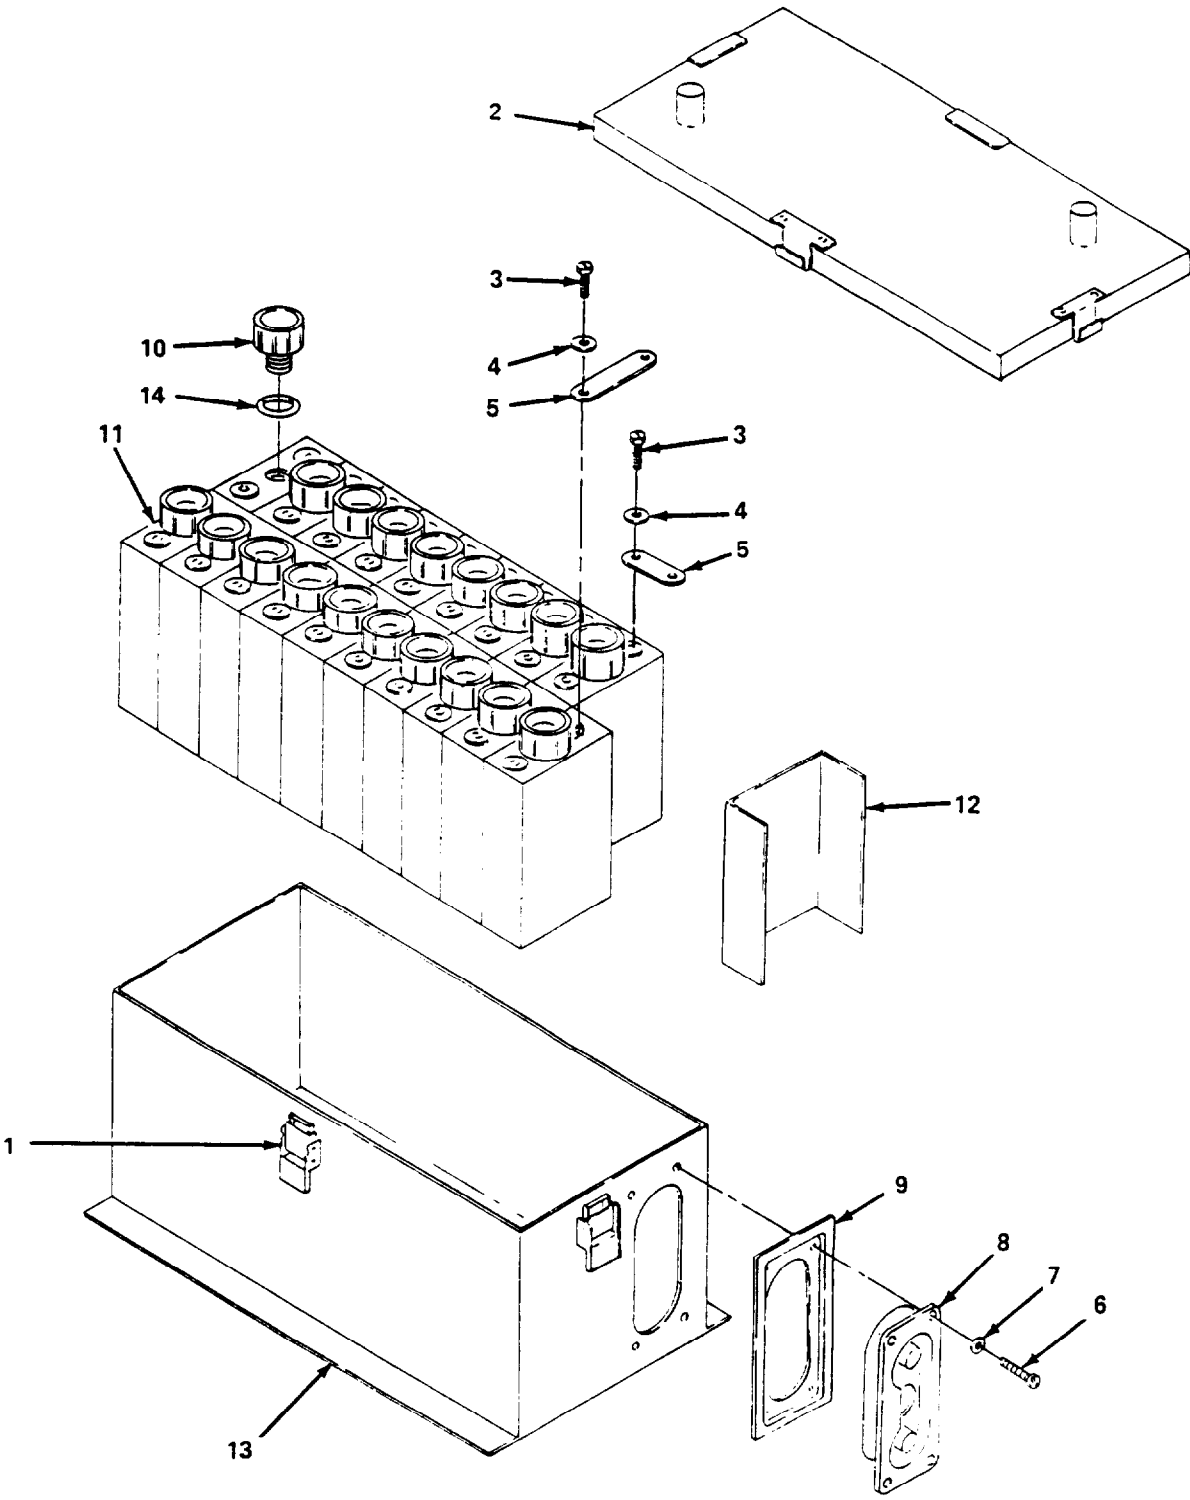

Figure 3-15. Battery BB-476/A Disassembly.
a. Disassembly/Reassembly (fig. 3-15).
- (1) Unsnap four latches (1) and remove cover (2).
- (2) Discharge battery (para 3-10).
- (3) Remove two screws (3), washers (4), and terminal link (5).
- (4) Repeat step (3) for remaining terminal links.
- (1) Discharge battery (para 3-10).
- (2) To remove any of the above items, refer to the exploded view (fig. 3-15) and the appropriate sections of paragraph 3-20a.
- (3) Upon completion of repair, perform the test procedures contained in paragraph 3-20c, below.